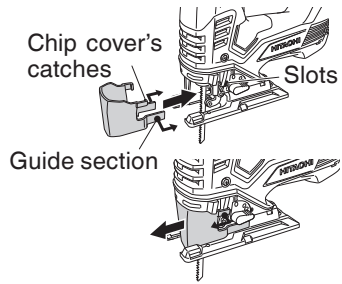

Fig. 9
12. Attaching and detaching the chip cover (Fig. 9)